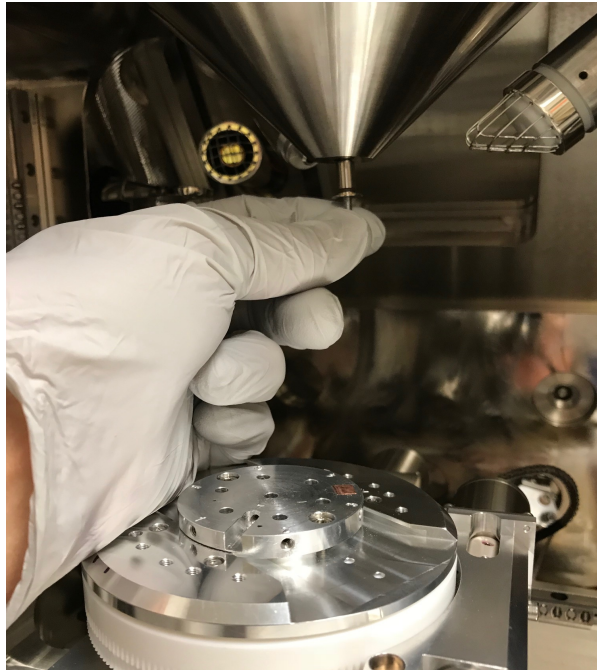

Figure LV2. Inserting the low vacuum aperture.
3. Insert the aperture into the bottom of the column using the mounting screw that extends from the aperture. **WEAR GLOVES**. See Fig. LV2 below.
2. Insert the mounting screw into aperture in the bottom of the column using the mounting screw that extends from the aperture. **WEAR GLOVES**. See Fig. LV2.